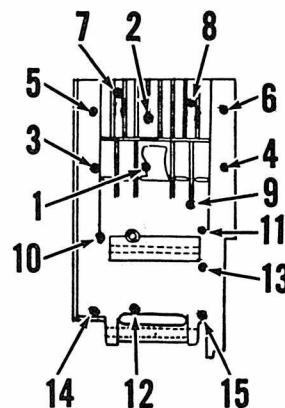

**Fig. S4-12—**View of alignment marks on pressure plate and hub.
If side play of clutch drum (4) exceeds 0.3 MM (0.0118 in.), spacer (5) can be shortened on a hone to provide clutch drum with 0.1-0.25 MM (0.0039-0.0098 in.) side play. Clutch springs (18) should be screwed into hub (3) until flush with back side. Marks on pressure plate (17) and hub (3) should be aligned as shown in Fig. S4-12. Clutch hub nut (1—Fig. S4-11) should be torqued to 31 Ft.-Lbs. Adjustment of clutch controls is outlined in a pre-